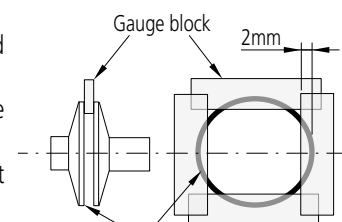

Fig.2 Measuring face
5. Parallelism can be checked by measuring a gauge block at four positions on the measuring faces and 2mm in from the edge as shown. (**Fig.2**)